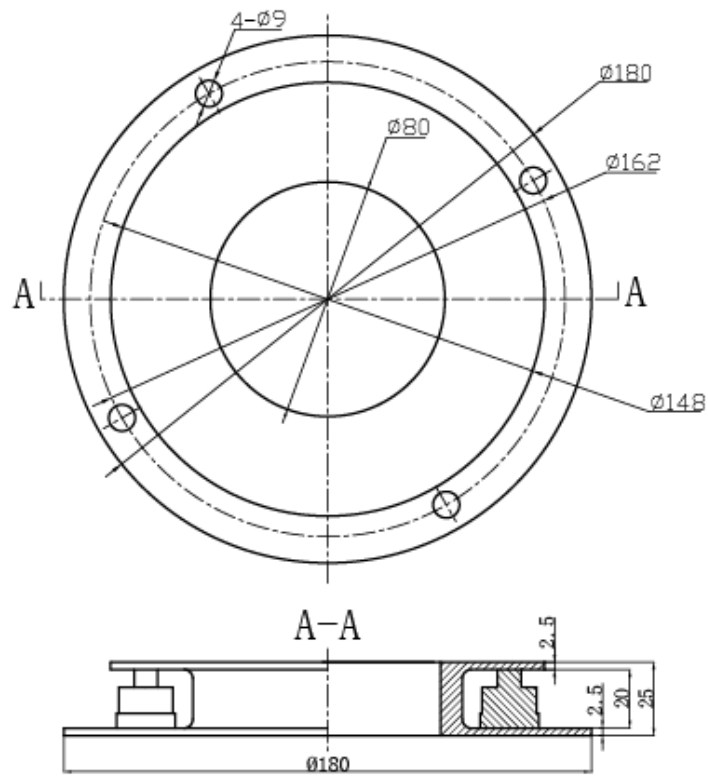

Figure 3
2.1 Car vehicle shock absorber dimension as figure 3 shows.